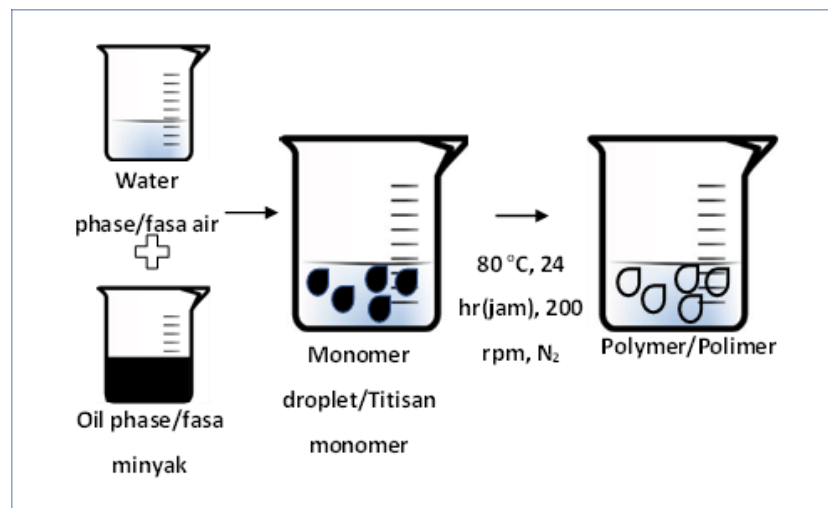

Figure 1: Polymerization technique
- (1). Figure 1 shows the polymerization technique consisting of monomer and polymer that does not dissolve in a solvent.
- (a). State the polymerization technique in Figure 1. Describe the advantages and disadvantages of the polymerization technique.
- (b). Explain why the product purity obtained using the polymerization technique in Figure 1 is low.
- (c). Suggest ONE type of reactor that is suitable for conducting the polymerization technique in Figure 1. Explain the reason for your suggestion.